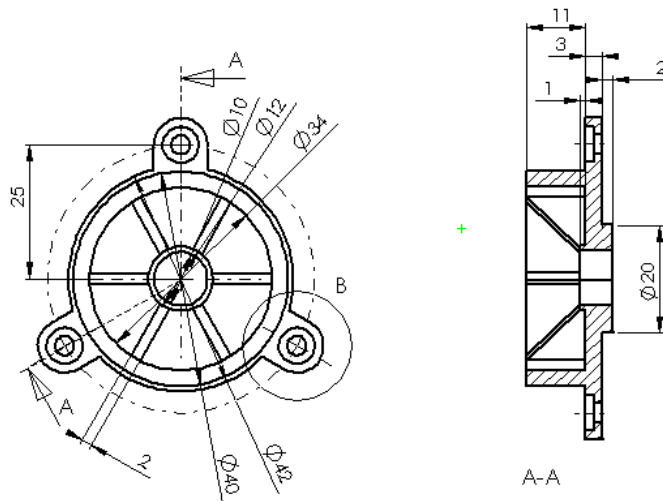

Figure 13-35 The dimensions generated by selecting the aligned section view
7. Now, select the aligned section view and generate the dimensions using the **Insert Model Items** tool and move the dimensions to place them at appropriate places, refer to Figure 13-35.